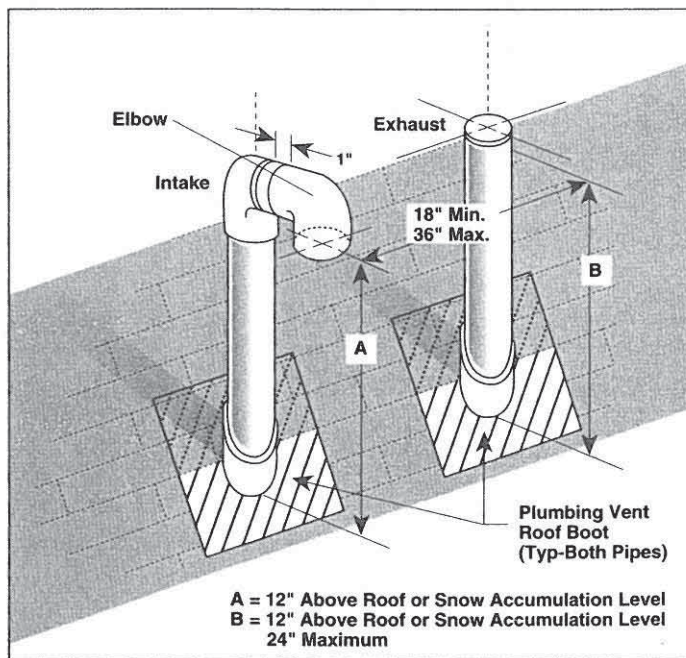

Figure 7. Vertical Vent Termination
- Figure 7 shows the proper installation and clearances for vertical vent termination. The vertical roof termination should be sealed with a plumbing roof boot or equivalent flashing. The inlet of the intake pipe and end of the exhaust vent must be terminated no less than 12" above the roof or snow accumulation level, and 12" away from a vertical wall or other protrusion.
- The termination clearances shown in Figure 7 are maintained.